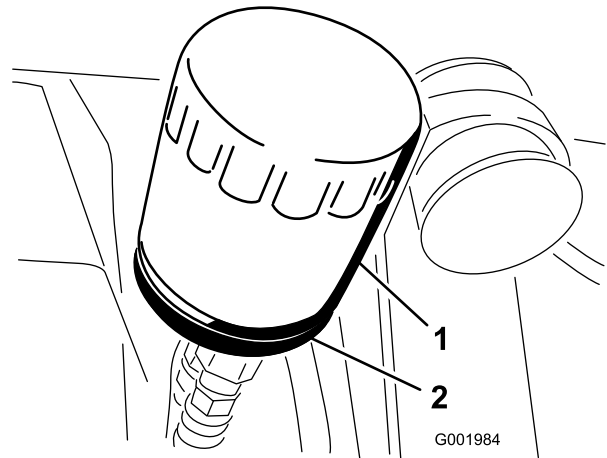

Figure 48
2. Remove the oil filter (Figure 48).
5. Install the replacement oil filter to the filter adapter. Turn the oil filter clockwise until the rubber gasket contacts the filter adapter, then tighten the filter an additional 1/2 turn (Figure 48).